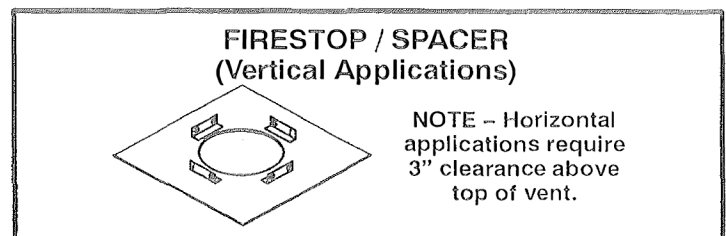

FIGURE 12
- 2 – Provide a firestop / spacer any time vent pipe must pass through a combustible floor, ceiling or wall. See figure 12. Refer to listing on page 20 for catalog numbers of Lennox firestop spacers.
- 1 – Provide a firestop / spacer any time vent pipe must pass through a combustible floor, ceiling or wall. See figure 12. Refer to listing on page 20 for catalog numbers of Lennox firestop spacers.